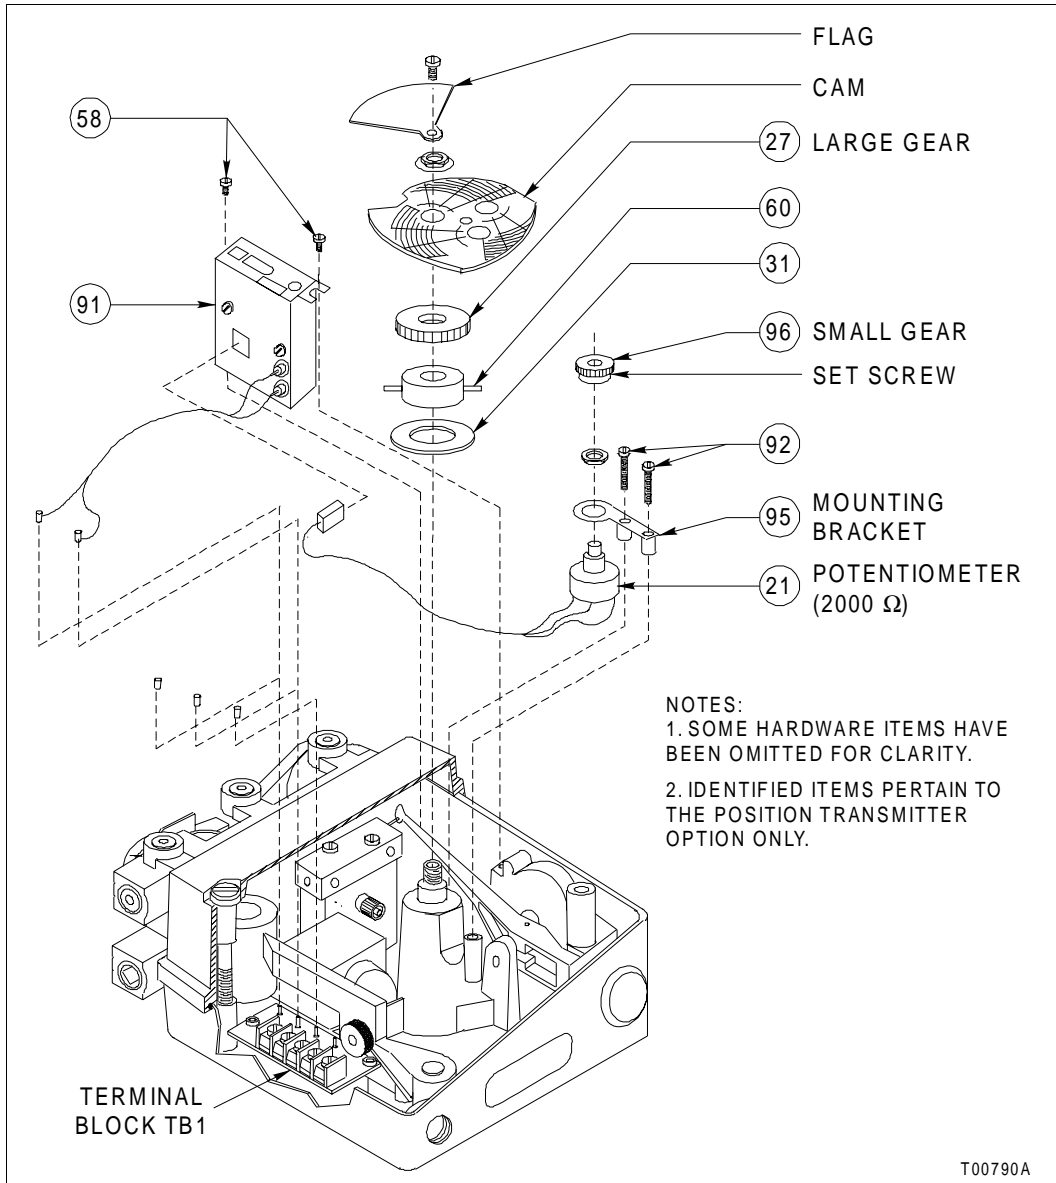

Figure A-5. 4 to 20 mA Position Transmitter Assembly (Exploded View)
- a. Remove the cam, by removing the screw, flag, nut, and washer (Fig. A-5).
- b. Loosen the set screw on the hub of the small gear using a $\frac{1}{16}$ -inch Allen wrench (Fig. A-5).
NOTE: If the mesh between the large and small gears is not tight, adjust the position of the potentiometer mounting bracket (Fig. A-5) so that backlash is eliminated.
- e. Remove the ohmmeter from TB1-1 and TB1-2. Install the cam, screw, flag, nut, and washer (Fig. A-5).